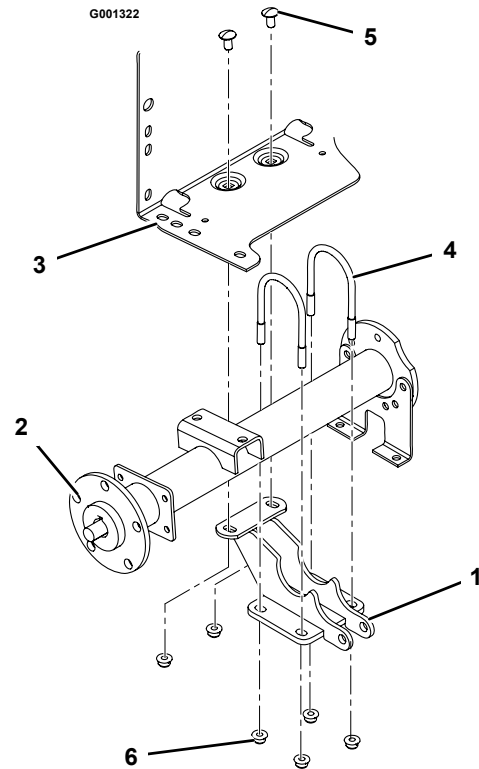

Figure 5
3. Loosely mount the lift cylinder support to the right end of the rear axle with 2 U-bolts and 4 flange nuts (3/4 inch) while aligning the mounting holes with the holes in the battery tray (Figure 5).
4. Secure the lift cylinder support to the rear frame with 2 carriage bolts (3/8 x 3/4 inch) and 2 flange nuts (3/4 inch). Tighten the 4 flange nuts on the U-bolts equally to make sure the bracket is aligned to the axle. Tighten the two nuts securing the rear of the bracket to the rear frame (Figure 5).